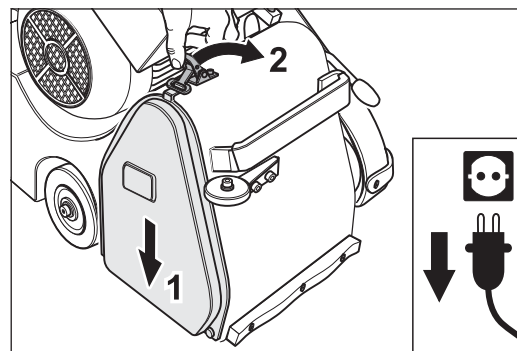

Fig. 40 Mount the side cover.
- 11 After the checking and setting of the sanding belt tracking mount the side cover (Fig. 40).